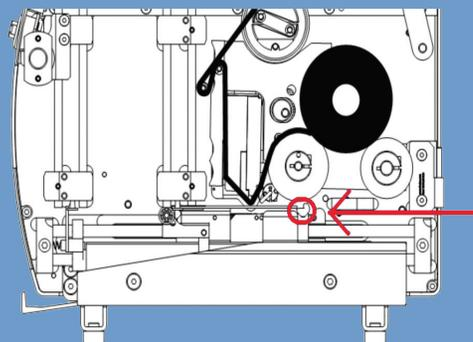

Figure 5: Push this steel jaw to the left with the power off to move left.
5. To move to the left press the black plastic part in (fig 5) to the left.